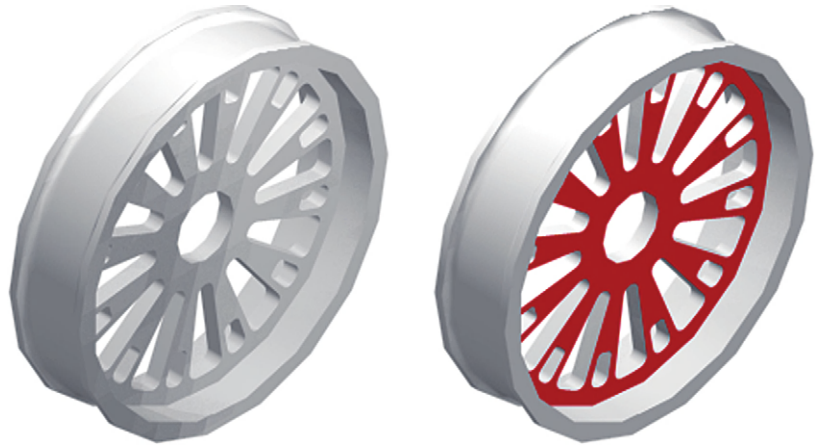

Fig. 19.16 Eighth example – **Color faces** tool
Seventh example – Color faces tool (Fig. 19.16)
3. Add lights and a material to the edited 3D model and render (Fig. 19.16).